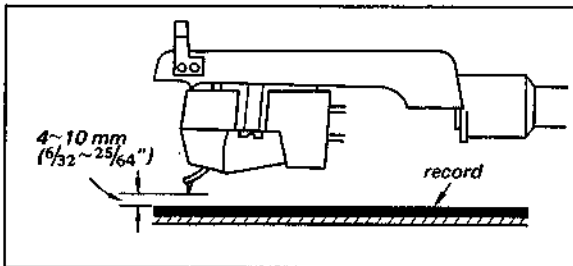

Fig. 3-1. Tonearm height adjustment (1)
1. When the tonearm automatically returns to the tonearm rest after playing, check to see that the clearance between the stylus tip and the record on the turntable is 4 to 10 mm ($\frac{6}{32}$ " to $\frac{25}{64}$ ") as shown in Fig. 3-1.
2. Confirm that the clearance between the stylus tip and the record on the turntable is 4 to 10 mm ($\frac{6}{32}$ " to $\frac{25}{64}$ ") as shown in Fig. 3-1.